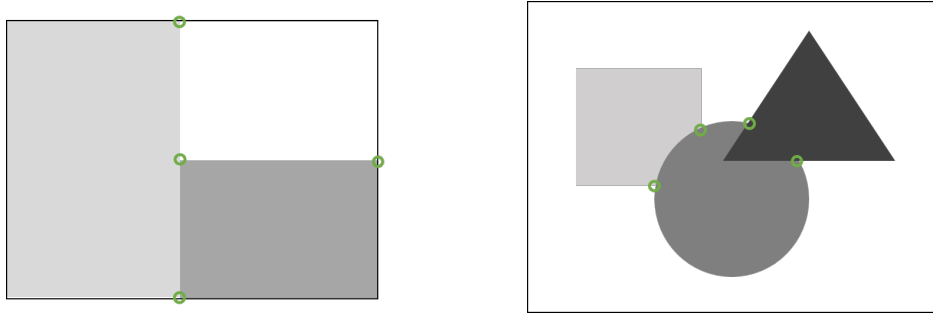

Figure 3: Examples of control points, which are marked with small circles.
Step 4. Search & label control points. Here, control point is defined as the intersection or meeting point between edges in the images (Figure 3). These control points will not change their positions (x, y coordinates) in the following steps. This step uses a subroutine (`getCtrlPnts.m`) developed by me to search and label control points.